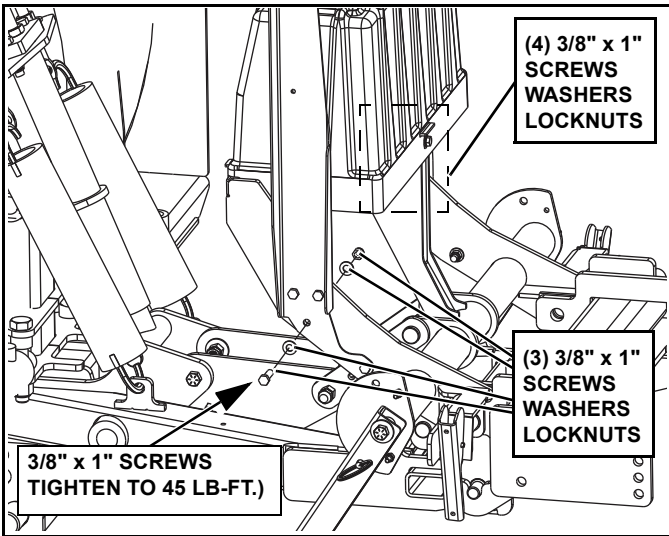
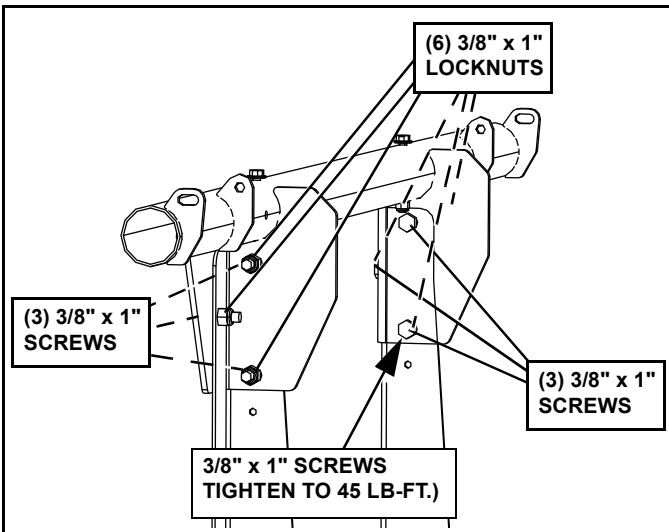

Figure 1-12
Figure 1-13
19. Remove left and right light support from power pack carton. Attach passenger side light bar support to lift/light bar with (4) 3/8" x 1" screws, (8) washers and (4) lock nuts from the light bar parts bag part number 96106089. On the drivers side use (3) 3/8 x 1" screw, (6) washers, and (3) lock nuts from the parts bag plus (1) 3/8" x 1-1/2" screw already attached to the plow holding the power cord clamp. Do not tighten at this time (See Figure 1-12).
20. Secure light bar to supports with (6) 3/8" x 1" screws and lock nuts. Align light bar supports to vertical position and tighten all light bar hardware. Tighten screws to 45 lb-ft. (See Figure 1-12 and Figure 1-13.)